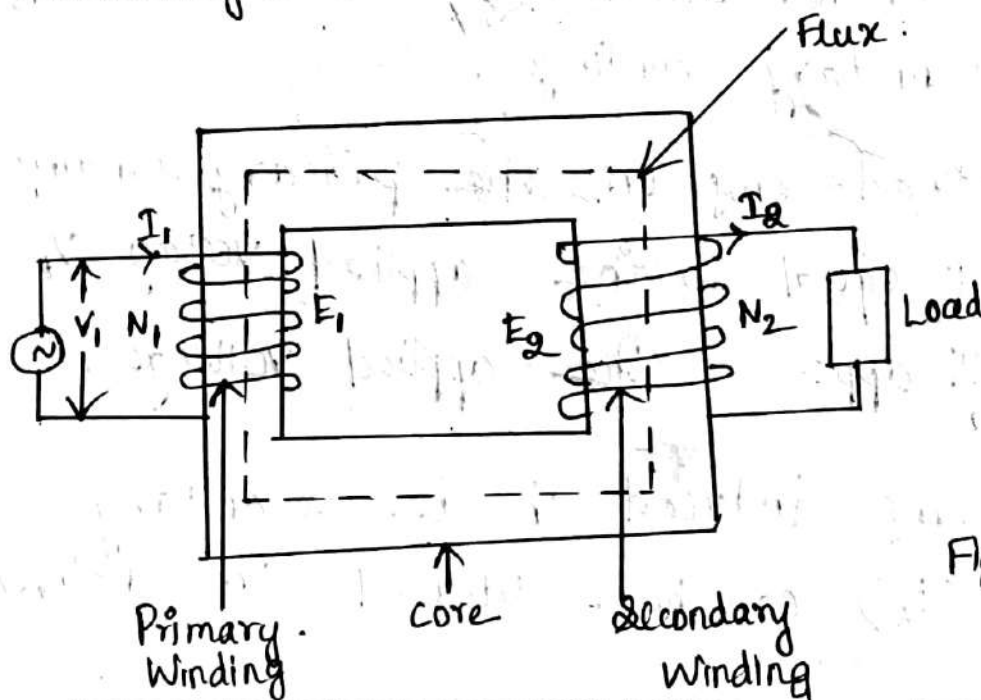

Figure 1.1
- * From the Figure 1.1, Transformer, consists of two windings insulated from each other and wound on a common core made up of magnetic material.